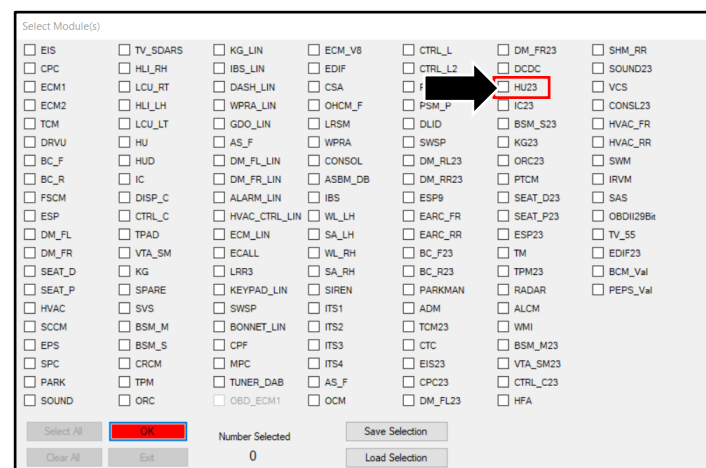

Figure 4
10. Select the “HU23” module then click the “OK” button (refer to Figure 4).